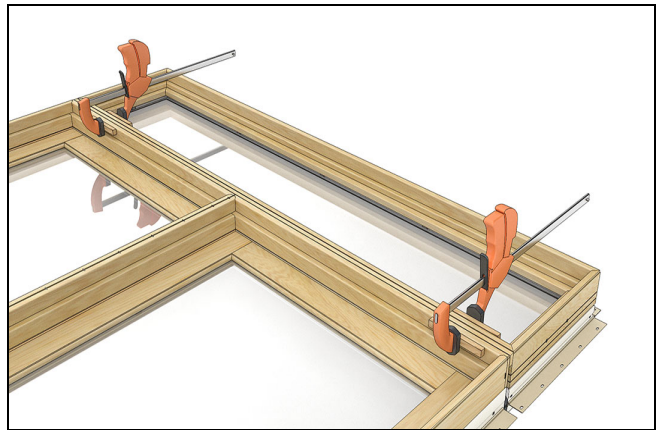

Figure 33
14. Lightly clamp the frames together on interior (use wood blocks to protect interior) near each end to hold the mull units in place. See Figure 33. *NOTE: 2 wide 1 high vertical mull clamping shown. Clamp units together according to the desired configuration.*